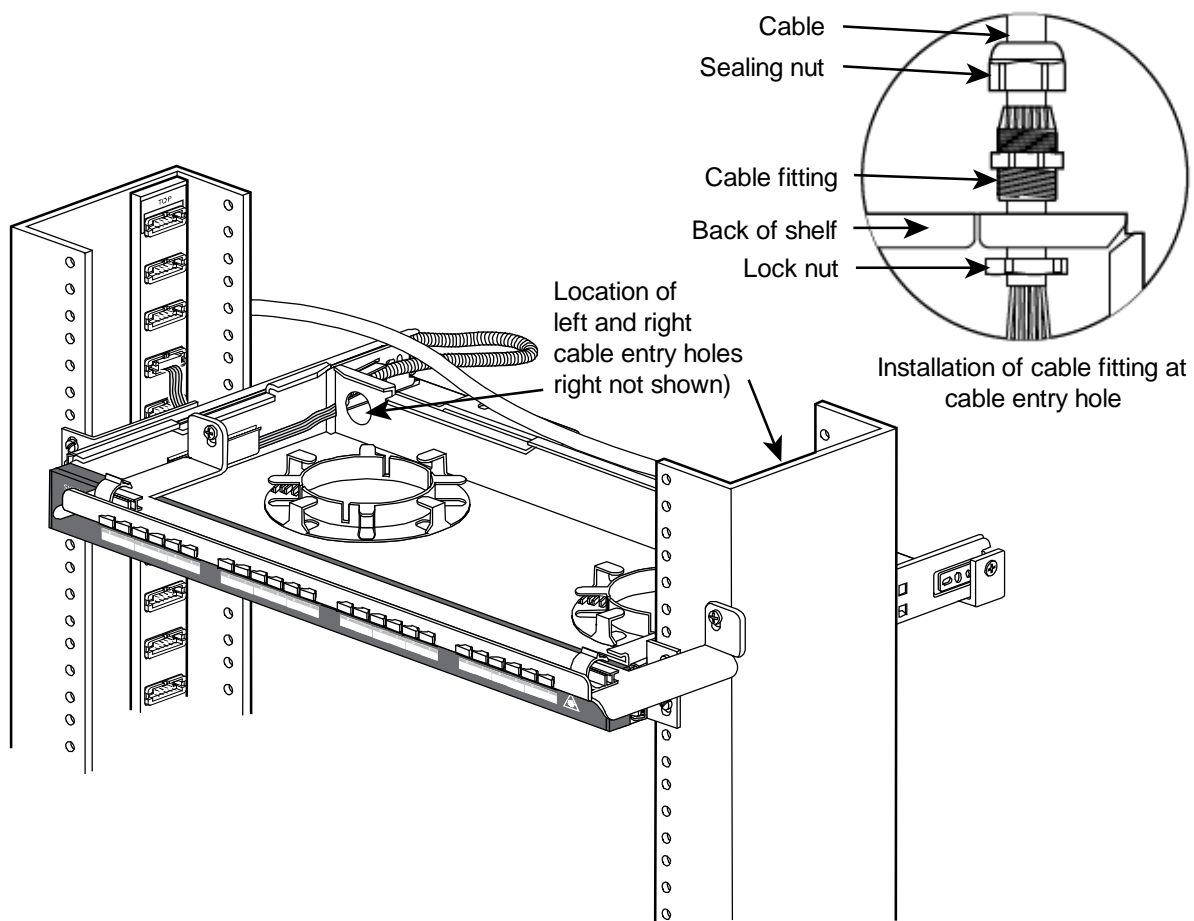

Figure 7 Installing the Liquid Tight Cable Fitting
2. Slide the liquid tight sealing nut and cable fitting onto the incoming fiber optic cable (Figure 7).
5. Feed the buffered fibers and the jacketed end of the cable through a round hole in the back of the shelf (Figure 7).
6. Slide the liquid tight lock nut onto the buffered fibers and the jacketed end of the cable (Figure 7).
7. Hold the liquid tight cable fitting so that the threaded portion is through the hole in the back of the shelf. Then tighten the locknut onto the cable fitting, securing the fitting to the back of the shelf (Figure 7).